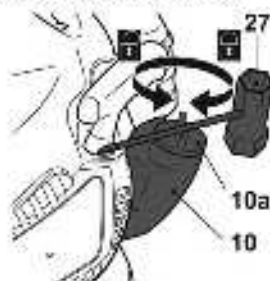

Fig. 6
- > Avoid getting dirt, dust or water in the fuel tank (10).
- > Unscrew and remove the fuel tank cap (10a). Use a proper tool (e. g. the multi tool (27)) if necessary (Fig. 6).